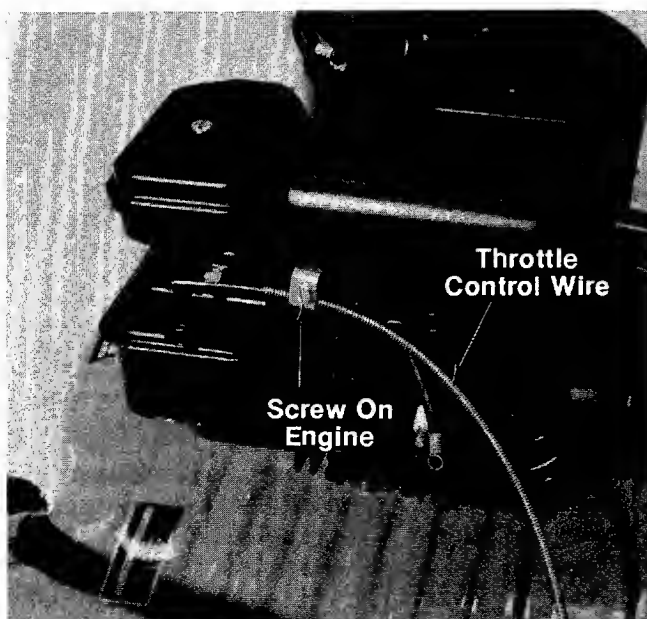

FIGURE 15.
1. Loosen, but do not remove, screw securing throttle control wire assembly at engine. See figure 15.